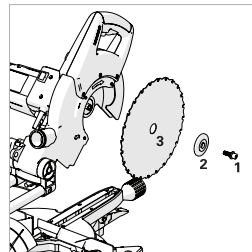

Fig. 40a
- Using the supplied Hex Key, release the arbor screw and outer-blade flange and the blade from the arbor. (**Fig. 40a**).